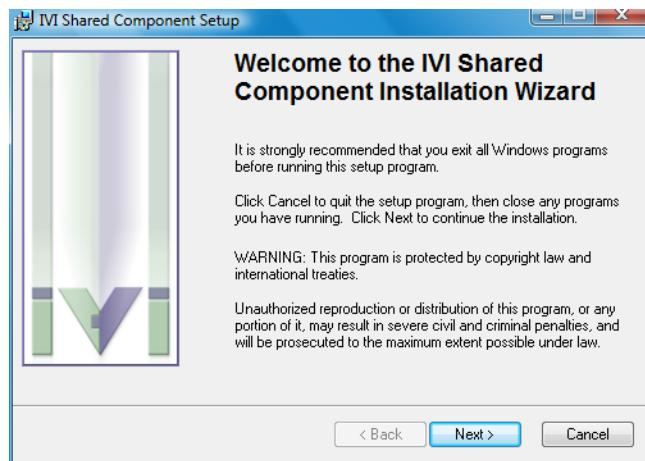

Figure 10 IVI Shared Components Installation Wizard Screen
- 5 This opens the **IVI Shared Components Wizard** as shown in Figure 10.